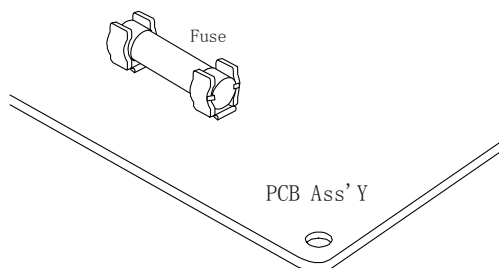

Fig.1
- 1) Remove the PCB ASS'Y from the electrical component box. Then pull out the fuse from the PCB ASS'Y (Fig.1)